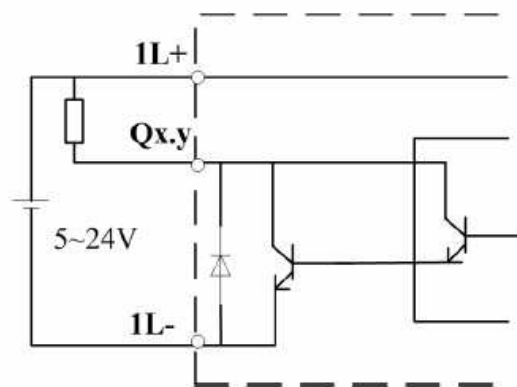

Figure 2.5.4 LM3106A Output Channel Equivalent Circuit
◇ LM3106A output channel (DO) equivalent circuit shown in Figure 2.5.4.